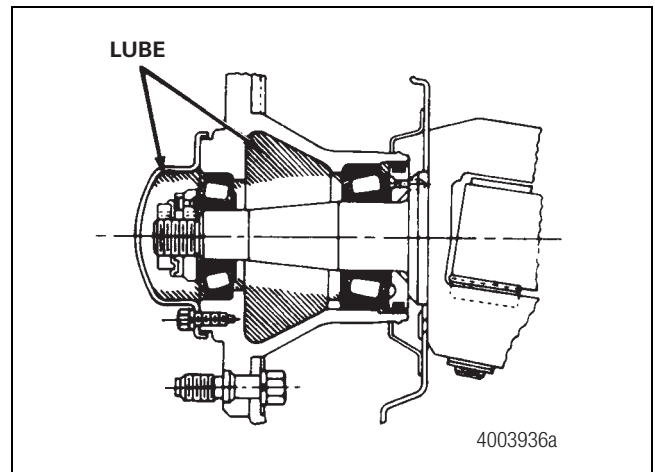

**Figure 46**
3. Use a grease gun to lubricate the assembly. Apply the lubricant through grease fittings on assembly. Figure 46.
4. Apply the lubricant until new lubricant comes from the boot. Figure 46.